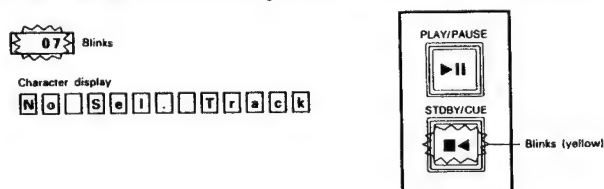

Figure 24
- If the selected track number does not exist on the disc, the display reads as shown in Figure 24. Select a new track.